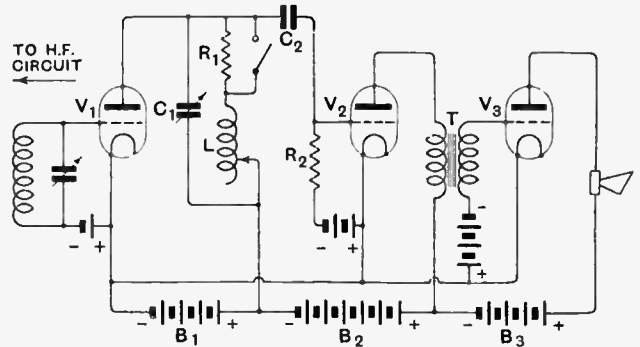

Fig. 4.—Experimental amplifier with variable characteristics. For details see Tables I and II.
In order that the reader may experiment for himself, a modified arrangement of the speech amplifier illustrated on page 44 of the January 13th issue will be described. Fig. 4 shows such an amplifier, and it is to be assumed that any high-frequency amplification preceding the detector is devoid of reaction, within the practical meaning of the term. Table I shows some of the possible combinations, whilst Table II indicates the approximate amplification. The cut-off point is taken as the lower frequency at which the amplification has fallen to 95 per cent. of that on the horizontal portion of the curve. It will be realised that for the best quality there must be some sacrifice in magnification. By using appropriate valves and inverting the positions of the transformers in a double note magnifier, so that the high ratio is used as a choke with the detector, and the low ratio is used for the note magnifier, the quality can be enhanced appreciably with little change in overall intensity from the loud-speaker. From Table II it will be seen that case (1) is the best for all-round work. Not only is the amplification greater than that with the double note magnifier, but the cut-off—which is less acute—occurs 100 cycles lower down. Comparing (2) and (5) in Table II, the amplification of (5) is double that of (2). But the lower tones in (5) are not magnified appreciably, since cut off occurs at 400 cycles.
One important experiment bearing upon the relative merits of the curves of Fig. 2 can be conducted as follows: using a high-impedance valve, V1, couple V1 to V2 (Fig. 4) by a grid leak of the order of 0.1 to 0.2 megohm, and by a switching arrangement substitute a choke of 10 to 20 henries in place of the resistance. The lower tones will immediately vanish, but will reappear when the resistance coupling is reinserted. This experiment is best conducted on an orchestral item (not jazz), with a full lower register. After the experimenter knows what to look for, he will obtain the same effect with various items. In fact, it is interesting to discover exactly what instru-